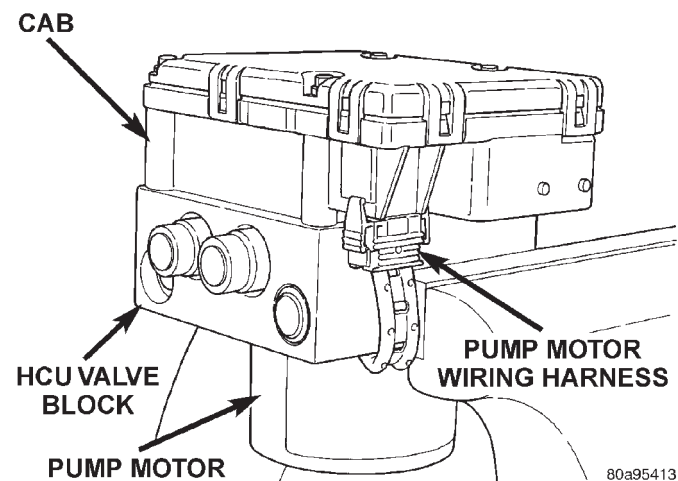

Fig. 14 Pump Motor To CAB Wiring Harness
(1) Remove the ICU from the vehicle. Refer to ABS Integrated Control Unit in the Removal And Installation Section in this group of the service manual for the removal procedure.
(2) Unplug the pump motor wiring harness (Fig. 14) from the CAB.
(3) Plug the pump/motor wiring harness into the CAB (Fig. 14).
(4) Install the ICU. Refer to ABS Integrated Control Unit in the Removal And Installation Section in this group of the service manual for the Installation procedure.